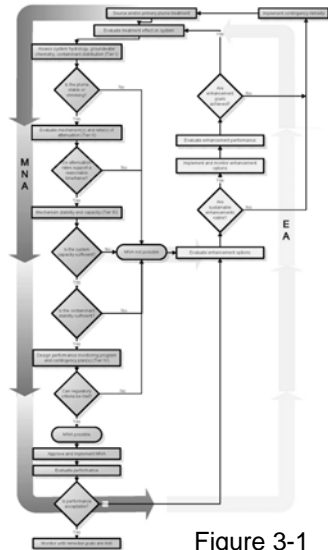

Figure 3-1
- Figure 3-1 of the ITRC Technical & Regulatory Guidance for Applying Attenuation Processes to Metals and Radionuclides